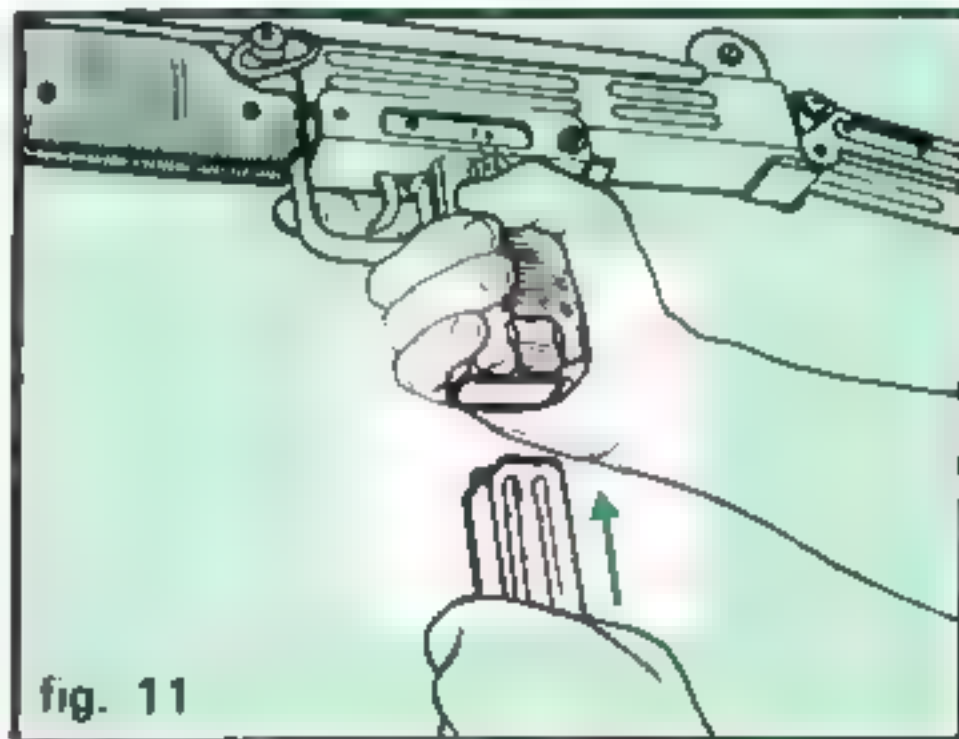

fig. 11
- 4 Tilt the carbine to the right, and insert the magazine into the pistol grip opening with your left hand. Push until magazine catch snaps into place (fig 11)